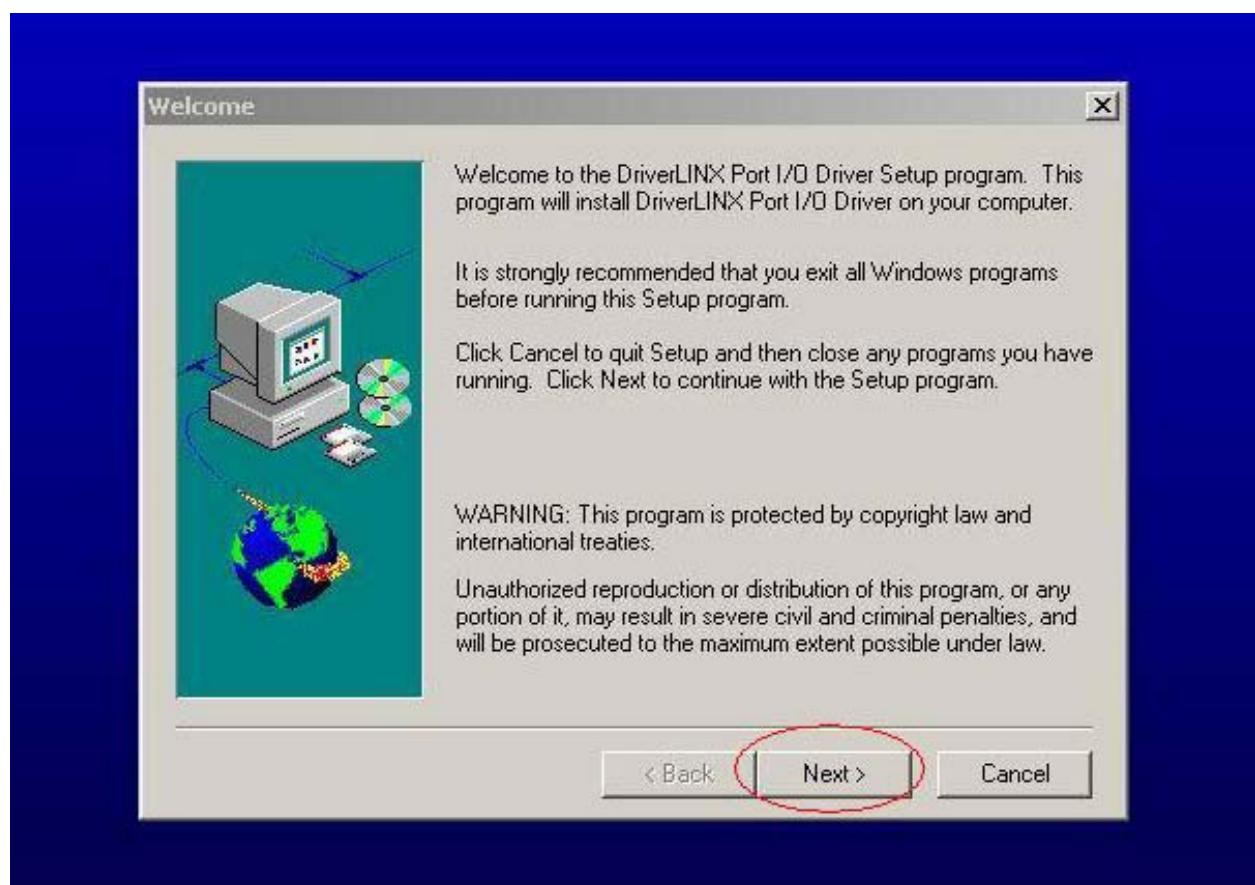

Fig. 0.2
- Continue through the installation process by pressing "Next" four times; see Fig. 0.2.